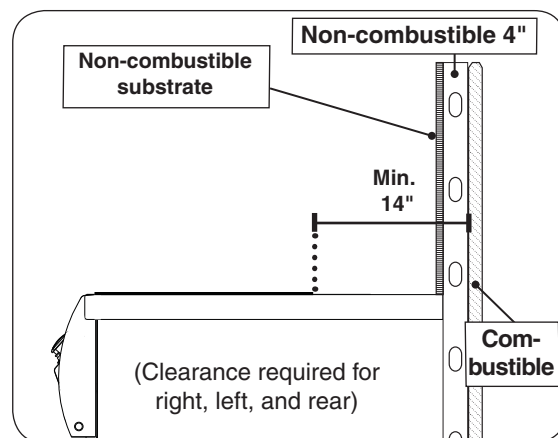

Fig. 9-2 Clearance 'B' Diagram
*(i.e. a non-combustible wall in front of a combustible wall to serve as a barrier. This can be accomplished by brick, or a metal stud finished with non-combustible substrate, see Fig. 9-2)*